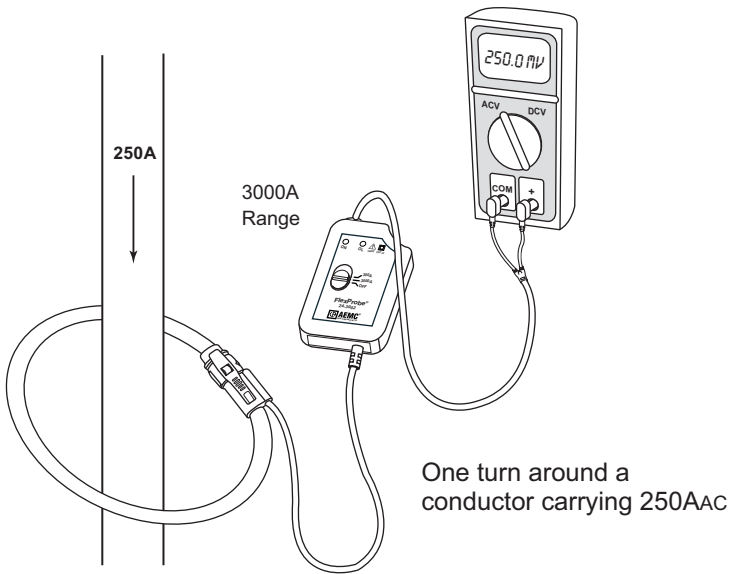

Figure 1
- To increase the sensitivity or measure on low currents, the FlexProbe® may be wrapped several times around the conductor. Remember to divide your reading by the number of turns for the actual measurement (See Figure 1).
- The FlexProbe® may be doubled around the conductor to be measured to double the output. (See Figures 1 and 2 to show the different values on a DMM while measuring 250AAC.)